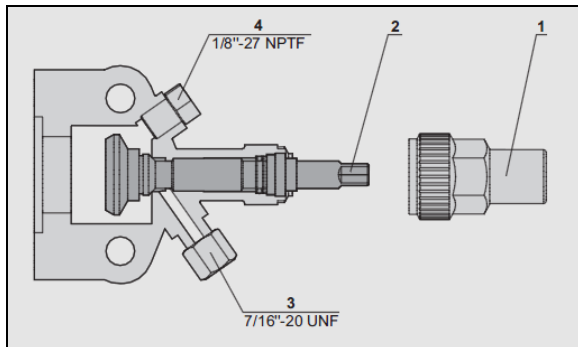

FIGURE 75: COMPRESSOR SHUT-OFF VALVE BACKSEATED POSITION (NORMAL OPERATING POSITION)
4. Backseat the compressor suction shut-off valve (FIGURE 75).
13. Shut down engine and backseat suction and discharge shut-off valves (FIGURE 75).
2. Backseat (stem out) the two compressor shut-off valves (FIGURE 75).
3. Install A/C pressure gauges at the compressor shut-off valves service ports (item 4, FIGURE 75).